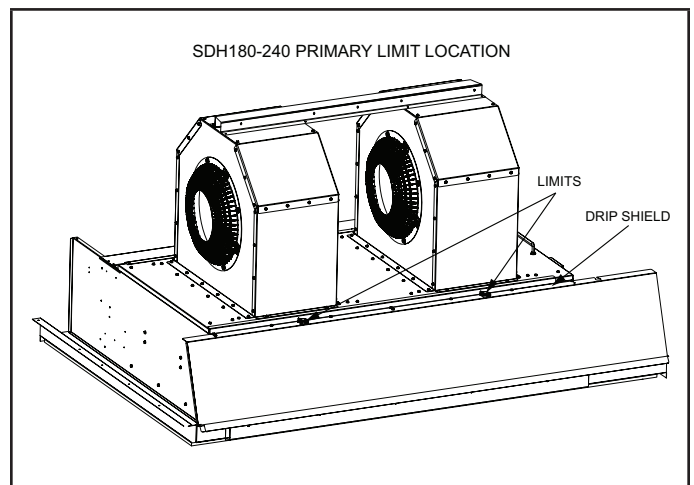

FIGURE 42
*SD 180 & 240* - See FIGURE 42.